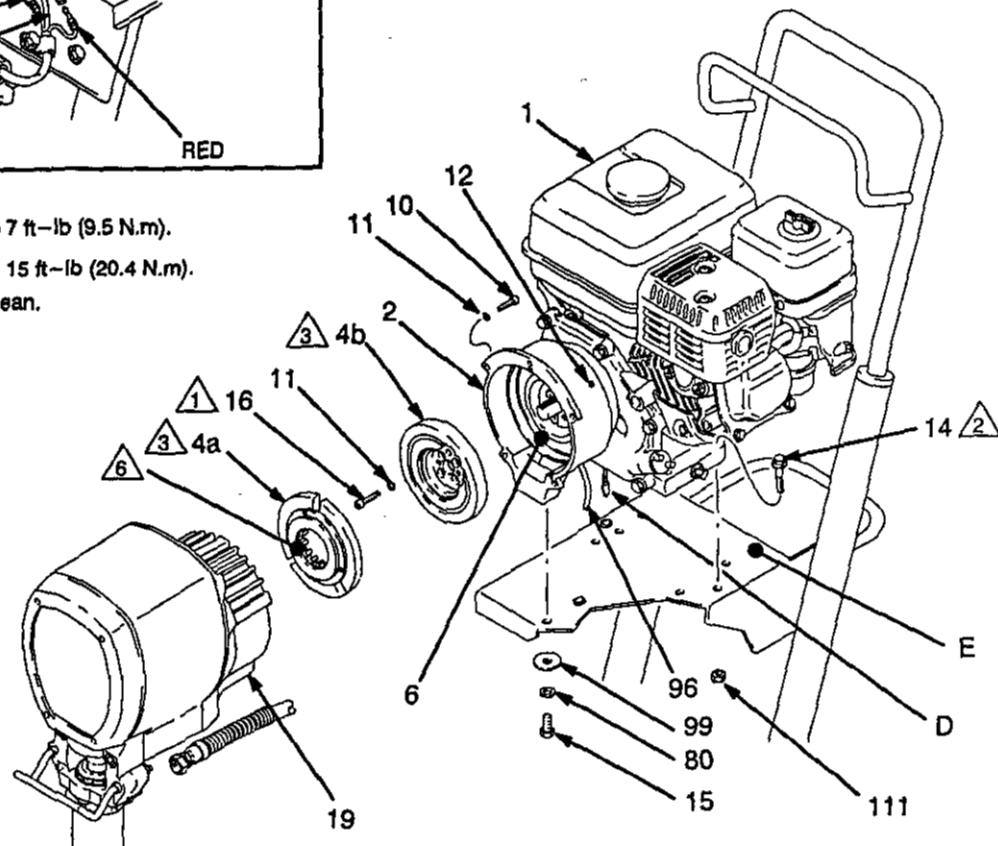

Fig. 21
5. Place the **engine (1)** assembly on the cart. Align the mounting holes. Carefully guide the engine wire (D) and wiring harness (96) from the field, through the appropriate grommets (66) in the mounting plate (E). Install the flange screws (14) and locknuts (111). Torque to 15 ft-lb (20.4 N.m). Install the cap-screw (15), lockwasher (80) and washer (99) from under the engine mounting plate to the clutch housing (2). Connect the engine wire (D) to the red wire, and connect the black and white wires as shown in the Detail drawing in Fig. 21.
6. Be sure the face of the rotor (4b) and the field are free of all oil and contaminants. Remove any burrs on the outside edge of the rotor. Install the rotor, lockwashers (11) and capscrews (16). Torque the capscrews to 7 ft-lb (9.5 N.m). See Fig. 21.
7. Be sure the face of the armature (4a) is clean. Assemble the armature to the shaft in the pinion housing (19). A retaining ring located within the armature makes it difficult to assemble these parts. Follow this procedure for the best results. First, lock a few splines of both parts. While they are locked, use a screwdriver to gently push the retaining ring into the armature, and finish engaging the splines. Push the armature onto the shaft until it contacts the ring (19m). See Fig. 21.
8. Assemble the pinion housing (19) to the clutch housing, using the capscrews (10) and lockwashers (11). See Fig. 21.